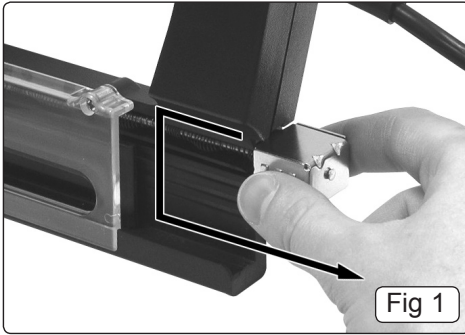

Fig 1
- 3.1.3 Release loading spring by pressing the release button inwards, then downwards (Fig 1), always secure stapler/nailer and be weary of the spring extending from the loading slot.